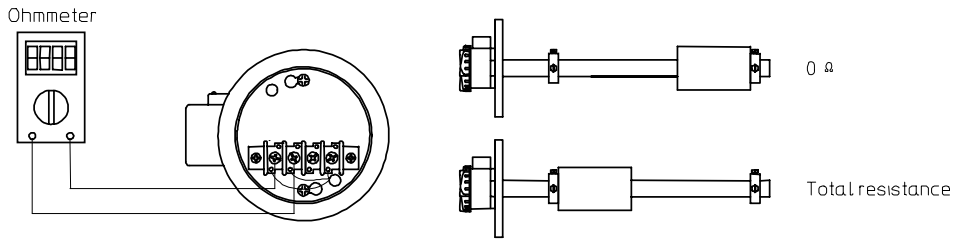

Fig. 14
- (3) Sensor operating(See Fig. 14)